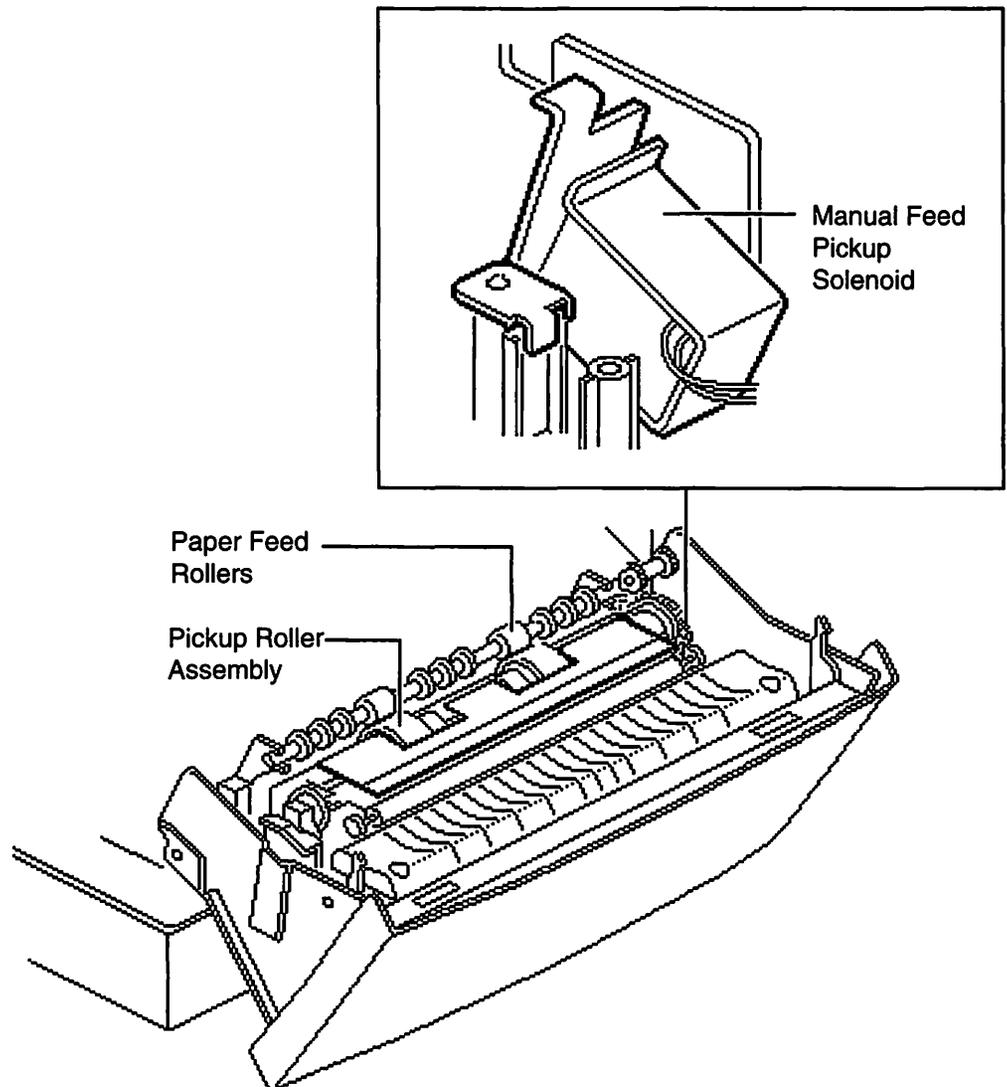

Figure 1-12
- The pickup roller assembly (see Figure 1-12), activated by the manual feed pickup solenoid, picks up and moves the sheet of paper from the manual feed tray toward the paper feed rollers.
- The paper feed rollers (see Figure 1-12) move the sheet of paper from the pickup roller assembly or the cassette feed rollers toward the toner cartridge and the photosensitive drum.